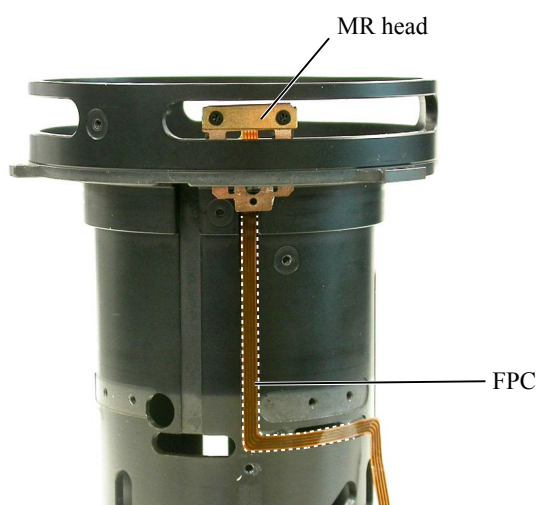

Fig.1
- Peel off part of the FPC shown by broken line. (ref. Fig.1)